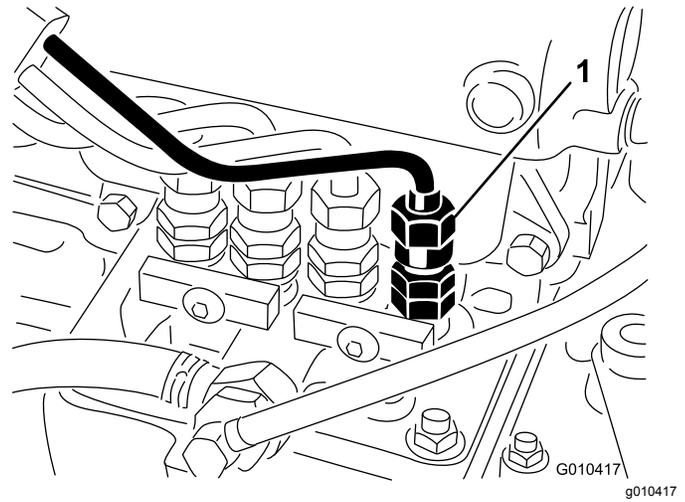

Figure 34
1. Loosen the pipe connection to the No. 1 injector nozzle and holder assembly at the injection pump (Figure 34).